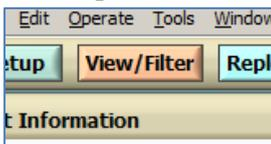

Figure 2-1: The View Button on DQCsyst Client Window
1. Click the **View** button (Figure 1.5-2) on the **DQCsyst Client Setup** window or the **View/Filter** button (Figure 2-1) on **DQCsyst Client** window. Please note that the latter option can be done after the searched data has been plotted.
The viewed and filtered data can be plotted if the **View Searched Data** window was accessed through the **View/Filter** button (Figure 2-1) by clicking the **Exit** button on the **View Searched Data** window. A popup will then ask to re-plot the data.